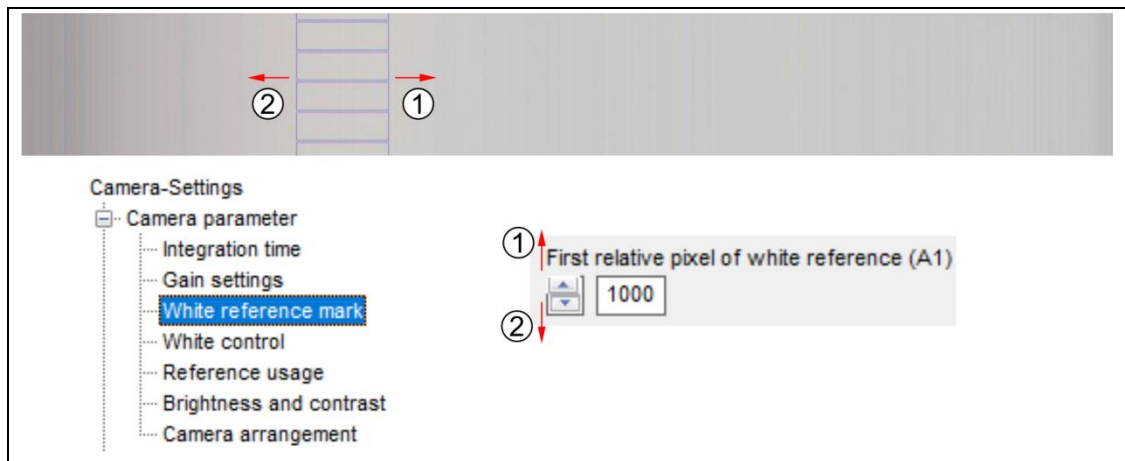

Fig. 45: Adjusting the white reference mark
- In the **First relative pixel of white reference (A1)** field modify the value in order to move the white reference mark as shown in Fig. 45, p. 73.